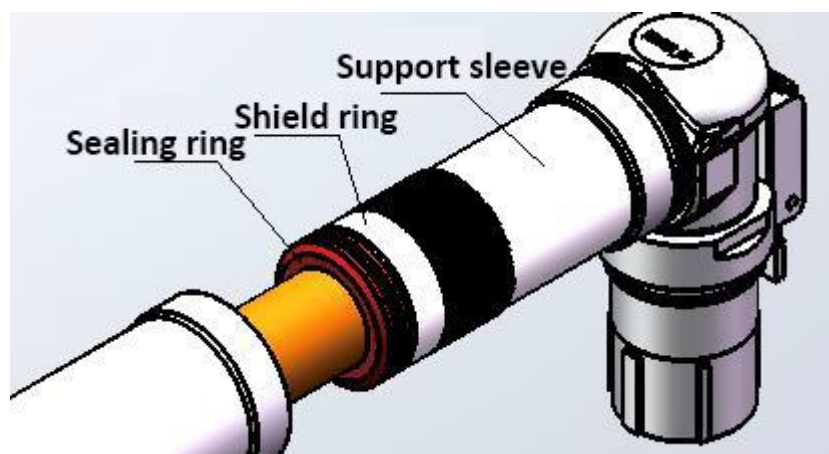

Figure 14
3.2.4 The support cover is assembled in place, and then the shielding layer is wrapped on the support sleeve, and then the shielding ring and the sealing ring are assembled in place, as shown in Fig.14.